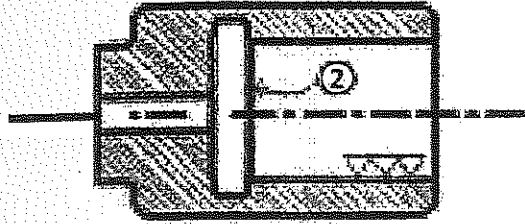

Fig. 1
7. Specify the design aspects that have addressed in the following design as shown in Figure 1 for facilitating manufacturing.